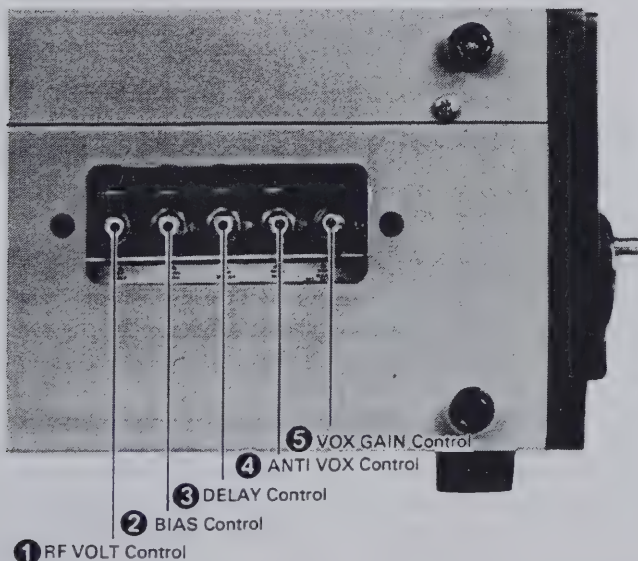

Fig. 6 Side Panel Controls
■ RF VOLT CONTROL (① on Figure 6)
■ BIAS CONTROL (② on Figure 6)
■ DELAY CONTROL (③ on Figure 6)
■ ANTI VOX CONTROL (④ on Figure 6)
■ VOX GAIN CONTROL (⑤ on Figure 6)